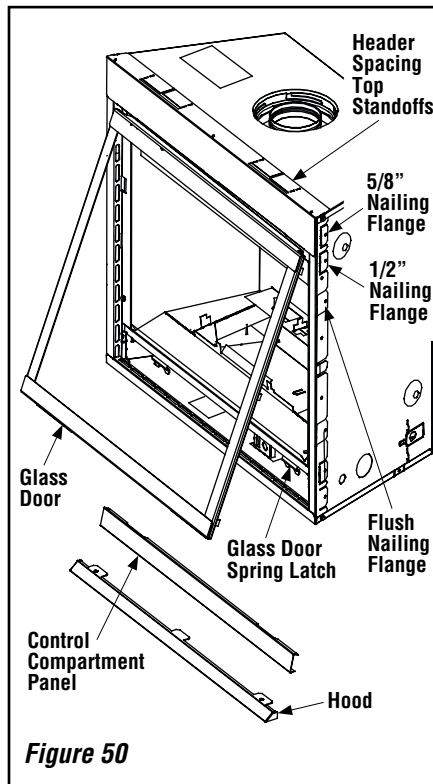

Figure 50
1. To access the glass door securing latches, first open the lower control compartment door (Figure 50) by lifting and pulling the bottom panel forward.
5. Inspect the gasket for defects. Insure it is properly located. Make sure the bead is not rolled up into the channel at the top of the door, but remains flat against the top of the glass (see Figure 50).
6. Position the door in front of the firebox opening with the bottom of the door held away from the fireplace (Figure 50). Hook the top flange of the door frame over the top of the firebox frame.